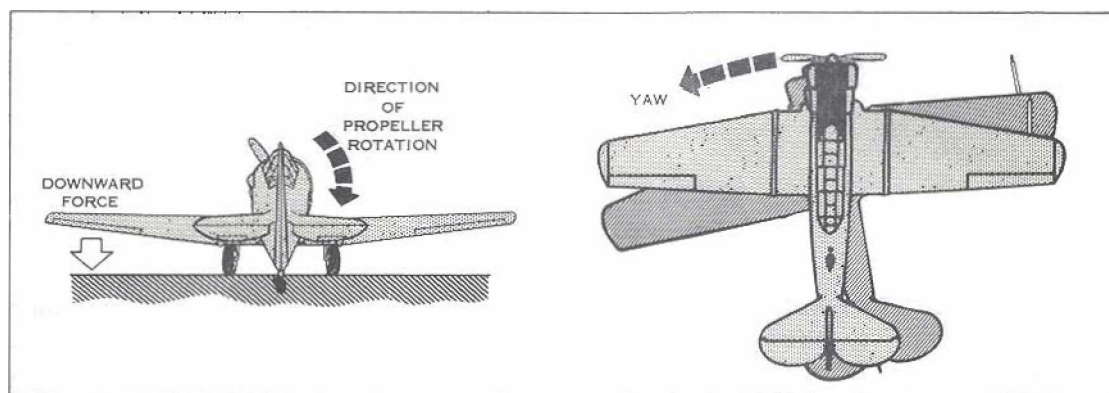

Figure 4: Torque Effect
(3) **TORQUE EFFECT** - As the propeller rotates, torque effect increases the pressure on one wheel, as shown in Figure 4. The increased friction caused by the force being applied to the wheel makes the aircraft yaw in the direction opposite to propeller rotation - that is, to the LEFT. In the air, torque effect is only a mild annoyance at high speed, but can become extremely dangerous at low speed when close to the ground, if power is applied rapidly. The propeller, owing to its aerodynamic resistance to turning, attempts to rotate the whole aircraft to the left, and this could start a roll with a resulting loss of control.